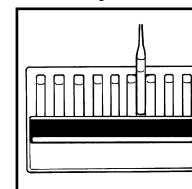

Figure 5
- b. **High Range Comparator (fig. 5):** Place the ampoule between the color standards until the best color match is found.